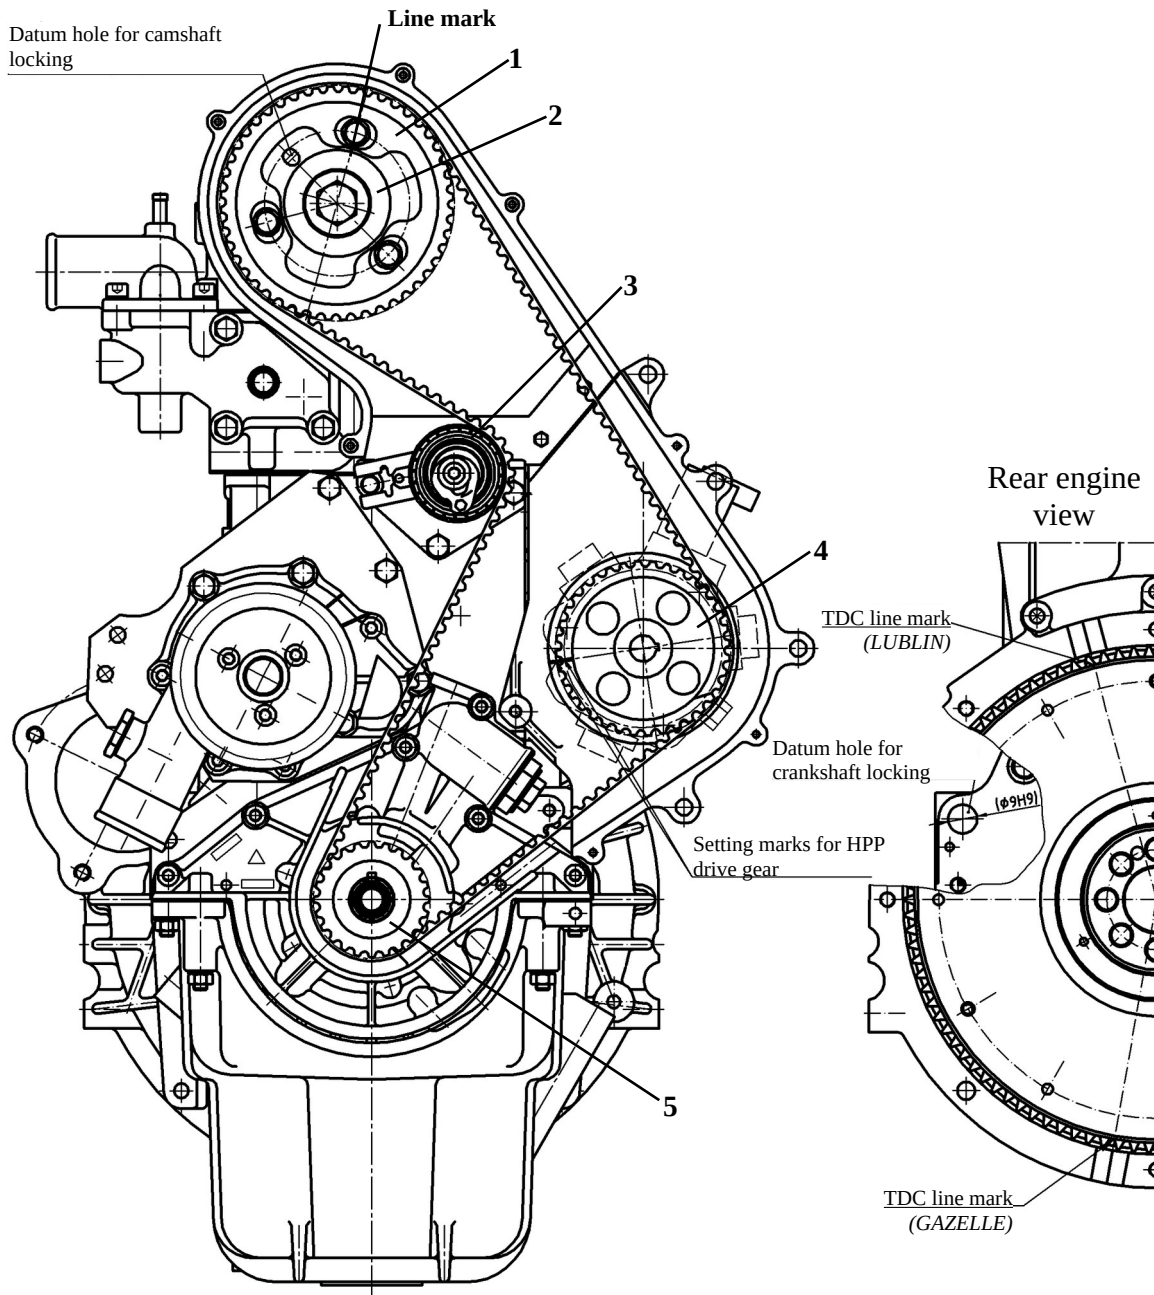

Fig. 13. Replace timing belt and set up timing
Check and adjust valve clearance on cold engine by means of feeler gauge of 0.2 mm thickness, both for intake and exhaust valves. Loosen hose clamps and remove ventilation hose from valve cover. Remove phase sensor. Unscrew valve cover bolts and remove it, first lifting its front side to pass by the vacuum pump fitting. Rotating crankshaft bring first cylinder piston to TDC position (see Fig. 13). Check valve clearance inserting feeler gauge between rocker arm and camshaft cam. The clearance is correct if feeler gauge moves with small resistance. If the clearance is incorrect, loosen lock-nut on adjustment bolt and adjust clearance rotating adjustment bolt by means of screwdriver. Holding adjustment bolt by means of screw driver, tighten up the lock-nut, and recheck valve clearance. If incorrect – repeat adjustment procedure. Repeat the same procedure for the second valve of first cylinder. In the same manner, adjust valve clearance of the remaining cylinders according to firing order (1-3-4-2), each time rotating crankshaft by half-turn. Tighten up the lock-nut, and recheck valve clearance. If incorrect – repeat adjustment procedure.
Procedure to replace timing belt and set up timing (see Fig. 13 and 14):
Remove air intake pipe. Remove timing belt cover. Bring first cylinder piston to TDC (GMP). (see 12.7). If it is not necessary to replace timing belt, take off timing belt only from camshaft gear (see 12.7, Fig. 13, do not remove belt pulley from crankshaft). Lock up camshaft by means of locking tool (AD-056) and unscrew the bolt fixing camshaft gear hub to camshaft. Remove camshaft gear rim (1) with hub (2) from camshaft. Unscrew rear timing belt cover bolts and remove the cover. Loosen hose clamps and remove ventilation hose from valve cover. Remove phase sensor. Loosen hose clamps and remove vacuum pump hose. Unscrew valve cover bolts and remove the cover, first lifting its front side to pass by the vacuum pump fitting. Unscrew 13 M8x1.25 bolts fixing camshaft housing and remove complete camshaft housing with camshaft. Remove camshaft housing gasket. Clean up sealing surfaces between camshaft housing and cylinder head. Install new camshaft housing gasket on locating bushes. Install camshaft housing in reverse order to dismantling.
Prepare proper container for coolant. After cooling down the engine, carefully unscrew compensation tank cap to release pressure, and then drain cooling system. If it is not necessary to replace timing belt, take off timing belt only from camshaft gear (see 12.7, Fig. 13, do not remove belt pulley from crankshaft). Remove camshaft housing (see 13.3). Detach oil tubes from turbocharger. Detach exhaust pipe from turbocharger. Detach air tubes from turbocharger and intake manifold. Remove EGR system. Remove intake and exhaust manifold. Exhaust manifold remove together with turbocharger. Loosen hose clamps and remove water hose: thermostat housing – radiator. Loosen hose clamps of water hose: thermostat housing – water pump. Detach fuel pipe: high pressure pump – rail, the openings protect with caps.